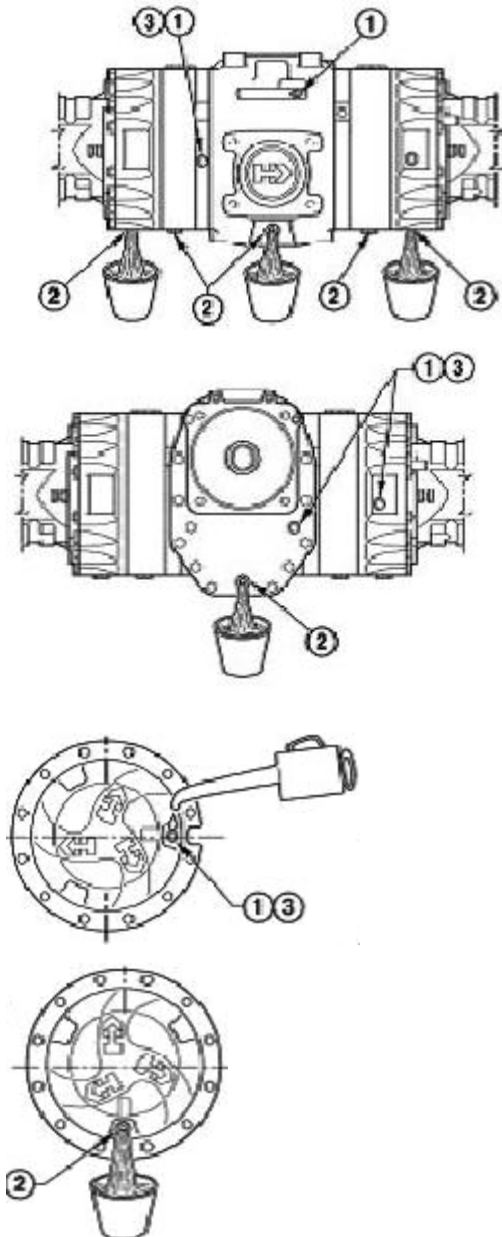

Figure 3-18
3.4.4.4 Check the oil level in rear axle (Figure 3-18)